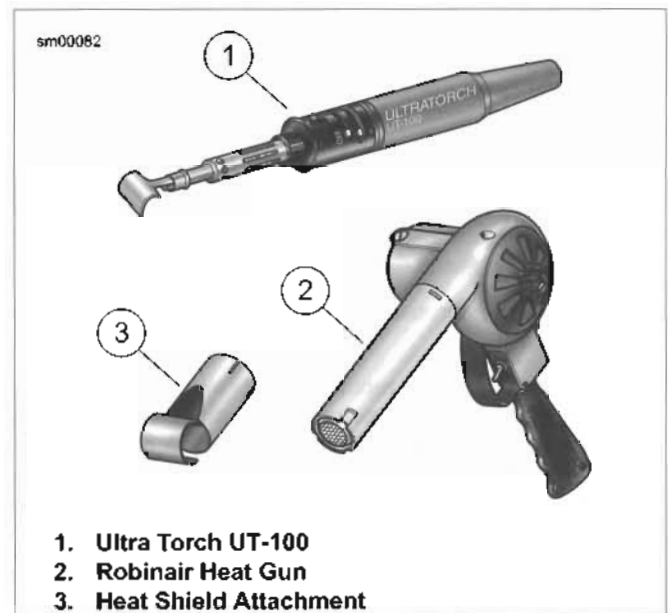

Figure 7-113. Radiant Heating Devices
6. See Figure 7-113. Use ULTRA TORCH (Part No. HD-39969) or ROBINAIR HEAT GUN (Part No. HD-25070) with HEAT SHIELD ATTACHMENT (Part No. HD-41183) or equivalent. Uniformly heat the heat shrink tubing to insulate and seal the soldered connections. Apply heat just until the meltable sealant exudes out both ends of tubing and assumes a smooth cylindrical appearance.